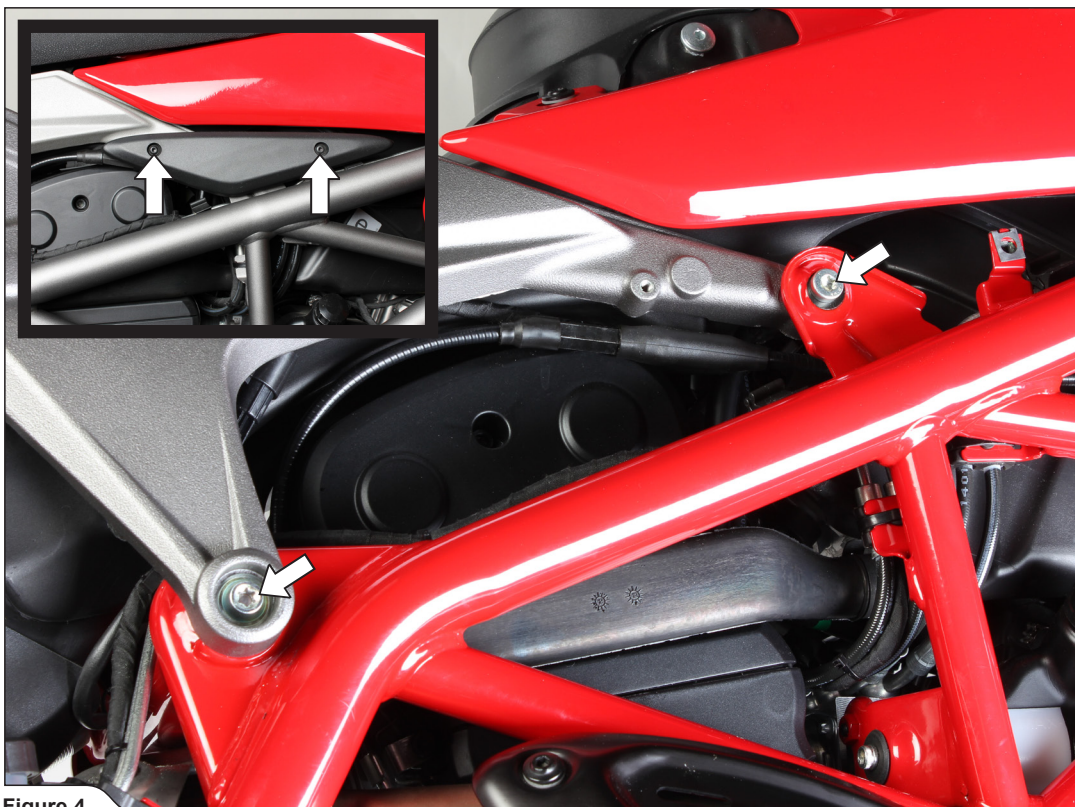

Figure 4
5. Unscrew the marked covers and sub frame bolts on both sides of the motorcycle (Figure 4).